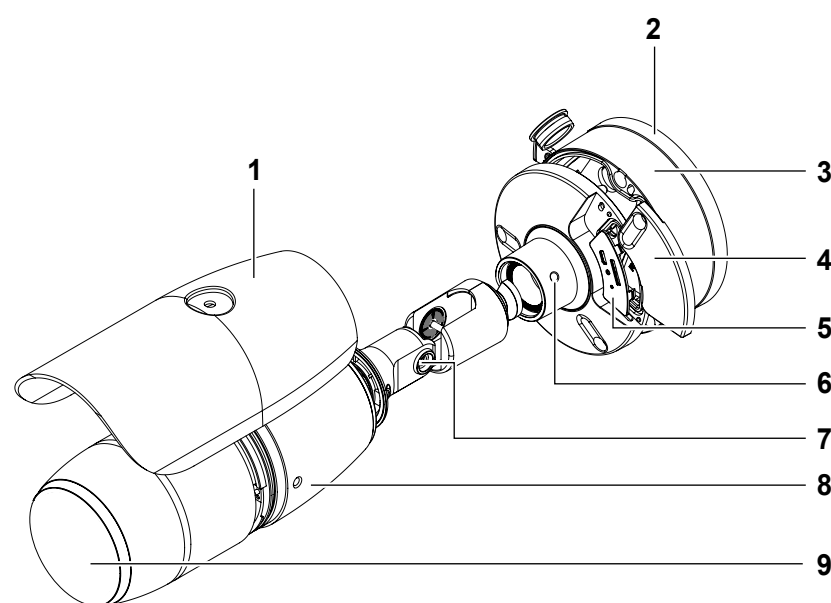

Figure 1
10. Securely attach the camera body (8) (Figure 1) to the camera base with the three screws.
### Camera Parts: Figure 1
4. Hold the mounting plate (2) (Figure 1) up to the surface and align the holes on the mounting plate with the Ø 5mm holes and securely attach the mounting plate to the surface with the four screws.
5. Unscrew the three screws on the camera base (3) (Figure 1) to remove the camera from the camera base.
- i. Unlock the screw (6) (Figure 1) and tilt the camera body.
- ii. Unlock the screw (6) (Figure 1) and tilt the camera body.
1. Loosen the thumb-screw on the sun-shield cover (1) (Figure 1) to move the sun shield cover forward and backward over the camera body.